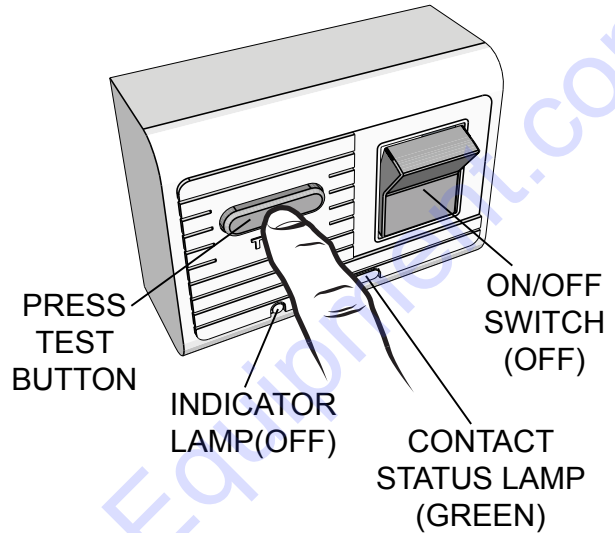

Figure 23. 230VAC GFCI Breaker Test Button
2. Press the test button to check the GFCI function. The ON/OFF switch should automatically switch to the OFF position and contact status lamp should light green (Figure 23).